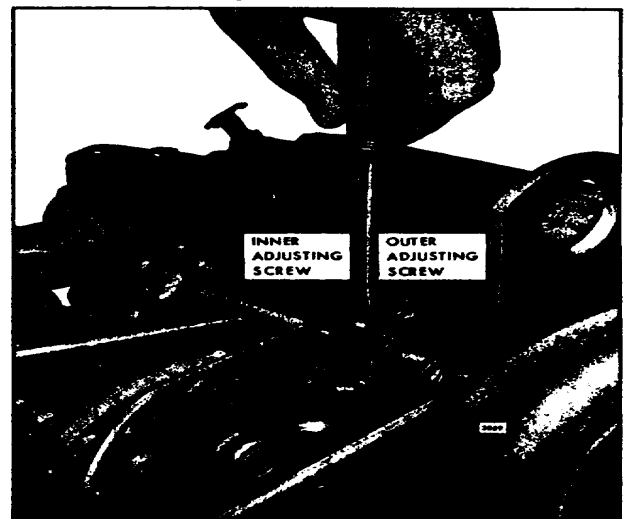

Fig. 2 - Adjusting Height of Rack Control Lever Adjusting Screws
1. Adjust the inner and outer adjusting screws (Fig. 2) on the rear injector rack control lever until both screws are equal in height and tight on the control tube. Check the clearance between the fuel rod and the cylinder head casting (below the bolt) for at least 1/16" clearance when the injector rack is in the fullfuel position and the rack adjusting screws are tight. If the fuel rod contacts the bolt or cylinder head casting, readjust the screws to obtain the 1/16" clearance.